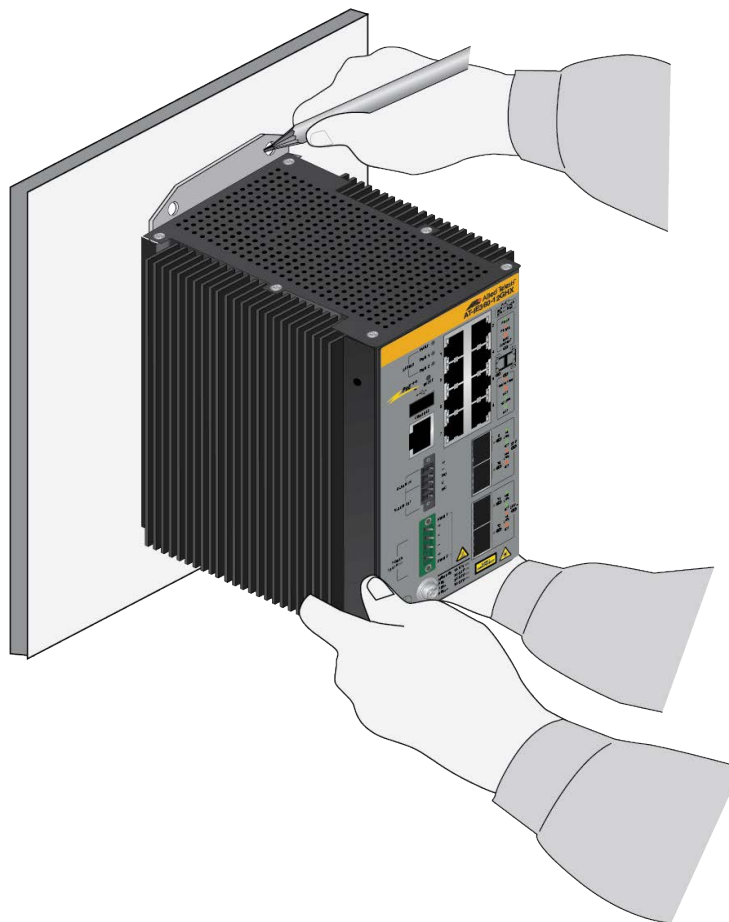

Figure 38. Marking the Locations of the Bracket Holes on a Concrete Wall
6. Have a person hold the switch on the concrete wall at the selected location for the device while you use a pencil or pen to mark the wall with the locations of the four screw holes in the two wall brackets. Refer to Figure 38.
- The switch must be oriented as shown in Figure 38. You may not install the switch horizontally or upside-down.